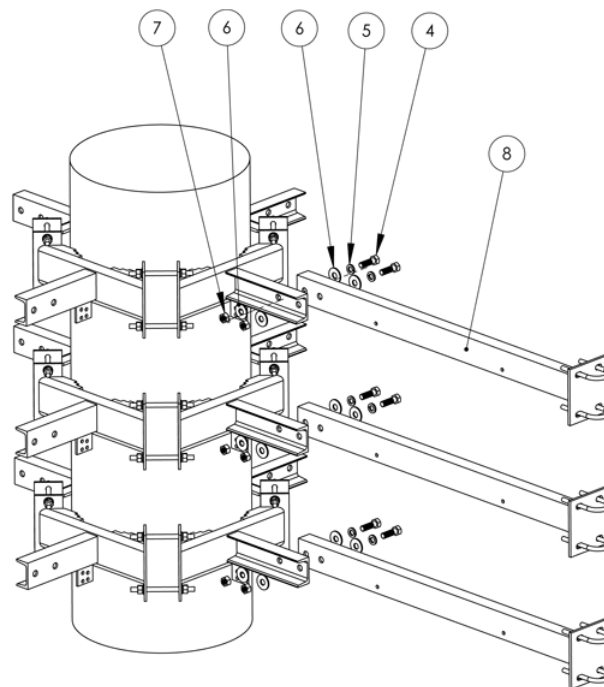

Figure C-24: Attaching Horizontal Arm to 4 Sector Monopole Clamp
- 1 Use the bolts, washers, spring washers and nuts as listed in Table C-10 to attach the 3 horizontal arms to the clamps as shown in Figure C-24.